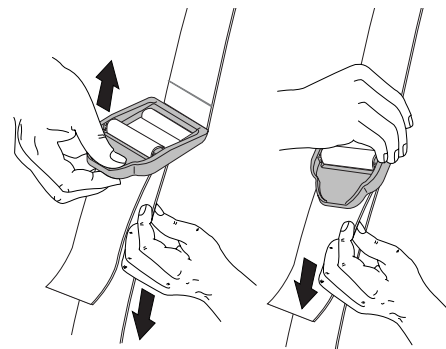

Fig. 8
4. Adjust length to fit the operator's size. Pull tab to lengthen, pull strap to shorten (Fig 8).